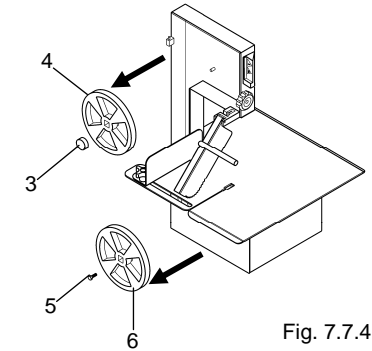

Fig. 7.7.4
- Slacken screw "3" by turning it anticlockwise, remove the washer which secures the pulley in position "4", using both hands grip the pulley and pull towards yourself as illustrated in fig. 7.7.4 and clean with a sponge soaked in a neutral pH 7 detergent.
- Slacken screw fixture 5 by turning it anticlockwise, with both hands grip pulley "6" and pull it towards yourself as illustrated in fig. 7.7.4 and clean with a sponge soaked with a pH 7 neutral detergent.